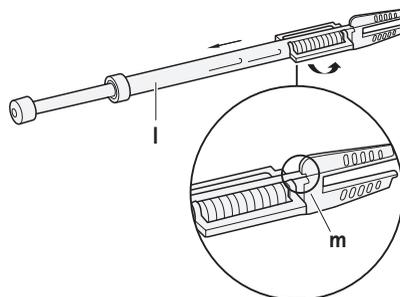

Fig. 3 Preparing the double and single chisels
- ▶ Slide cage **l** back and rotate counterclockwise by 90°, see Fig. 3.